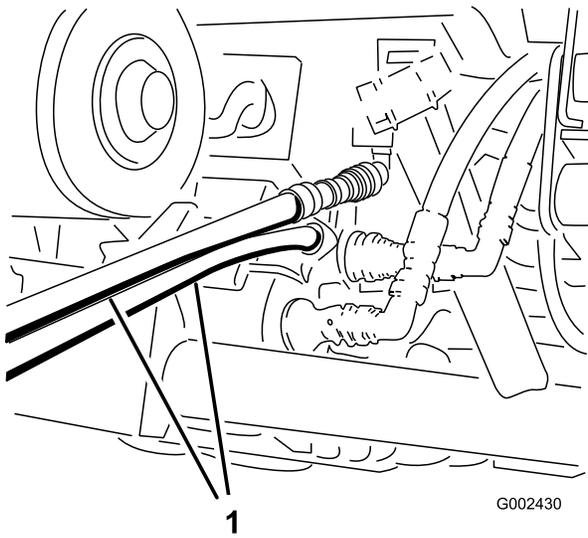

Figure 64
4. On the other vehicle, connect the two hoses to the coupler still in the coupler bracket (connect the top hose to the top coupler and the bottom hose to the bottom coupler) (Figure 64). Cap the unused fittings.